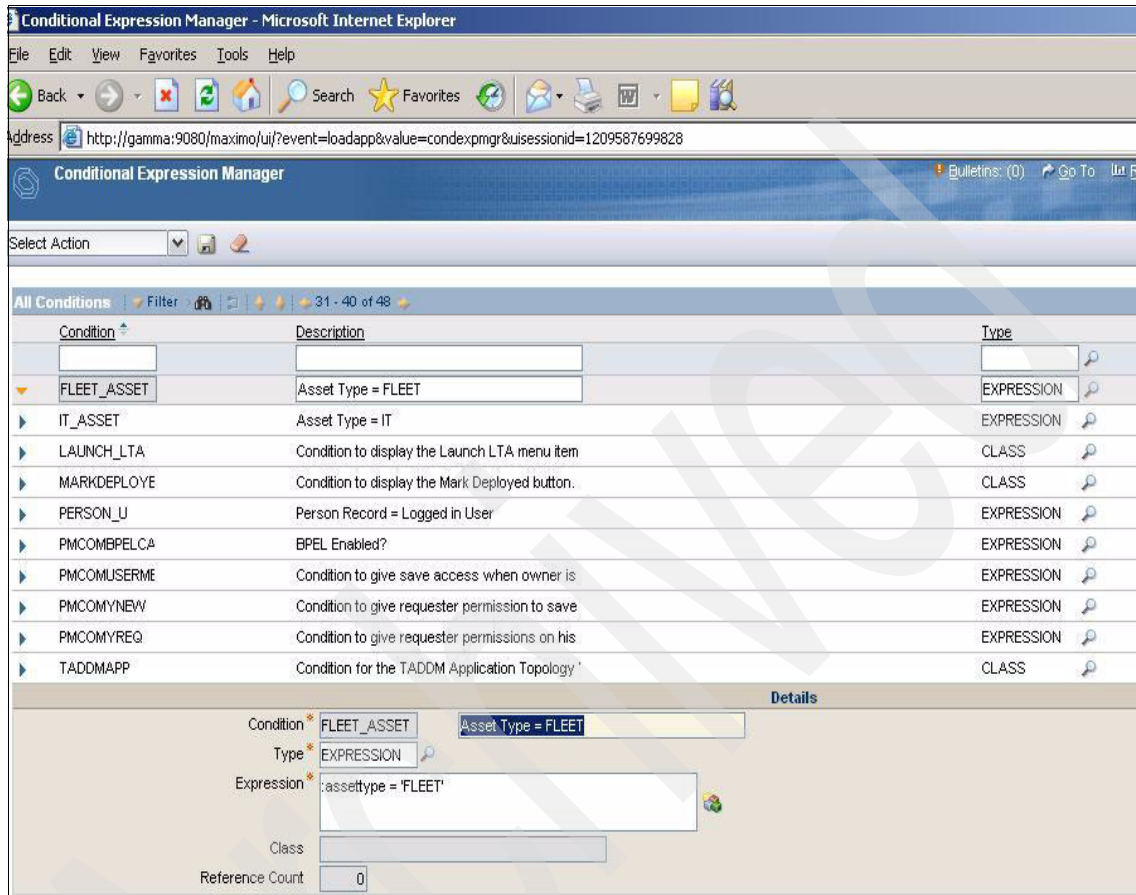

Figure 8-7 Condition created
11. Click **OK** and Save the record. Figure 8-7 the window displayed when a condition has been successfully created.